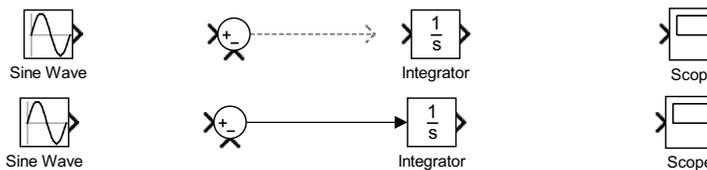

Figure 1.6: Example of connecting two components: Align the components, Click on output of one and drag to another. Then, release to finalize connection
- Connect the output of the **Sum** block to the input of the **Integrator** block. [Figure 1.6.]